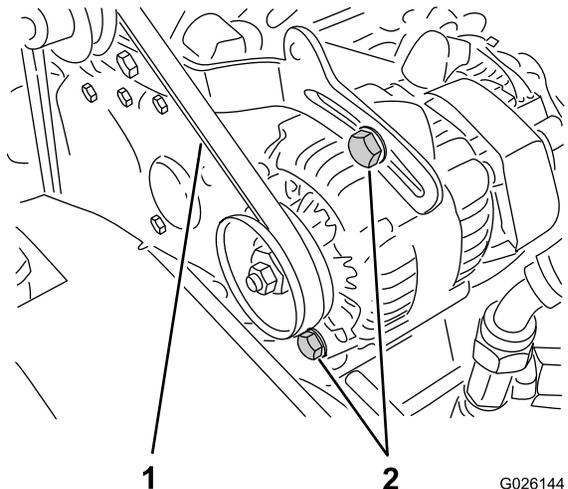

Figure 68
2. Check the tension by pressing the belt at mid span between the crankshaft and alternator pulleys with 10 kg (22 lb) of force (Figure 68).
- A. Loosen the 2 alternator-mounting bolts (Figure 68).
- B. Using a pry bar, rotate the alternator until the proper belt tension is attained, then tighten the mounting bolts (Figure 68).